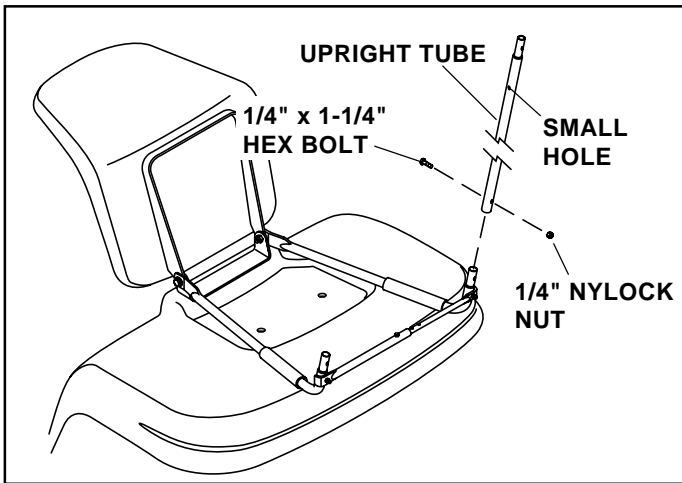

FIGURE 4
- Insert the upright tubes onto the right and left base tubes, turning the upright tubes so that the small hole shown in figure 4 faces inward. Fasten using two 1/4" x 1-1/4" and two 1/4" nylock nuts. See figure 4.